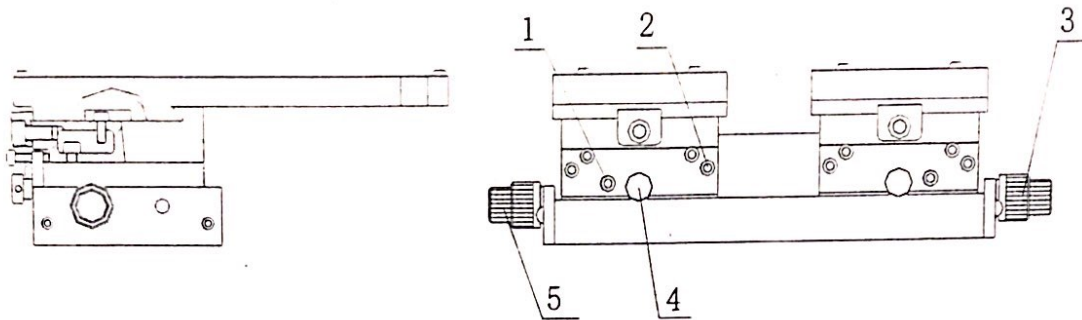

Figure 16
(D) Adjustment on 2-Color Plate Base (Figure 16)